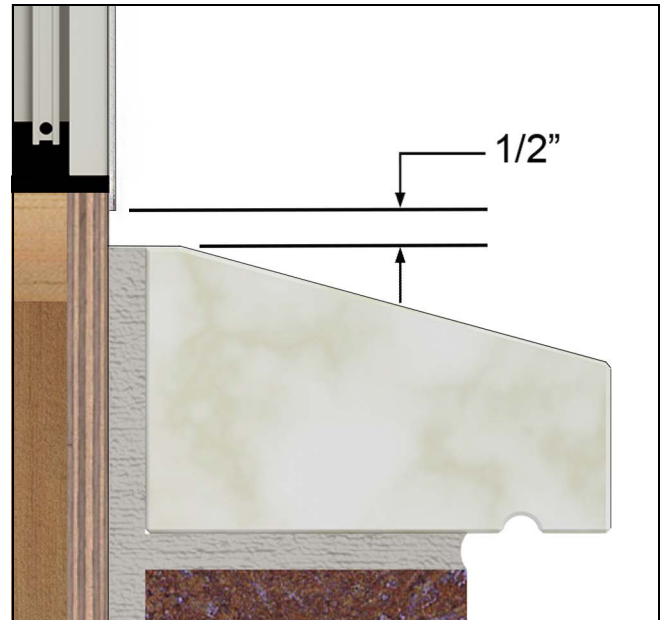

Figure 4
4. On installations with brick veneer (Masonry), verify there is at least 1/2” between bottom of window sill (or eventual placement of the window) and the top row of brick to avoid “brick bind”. See Figure 4.